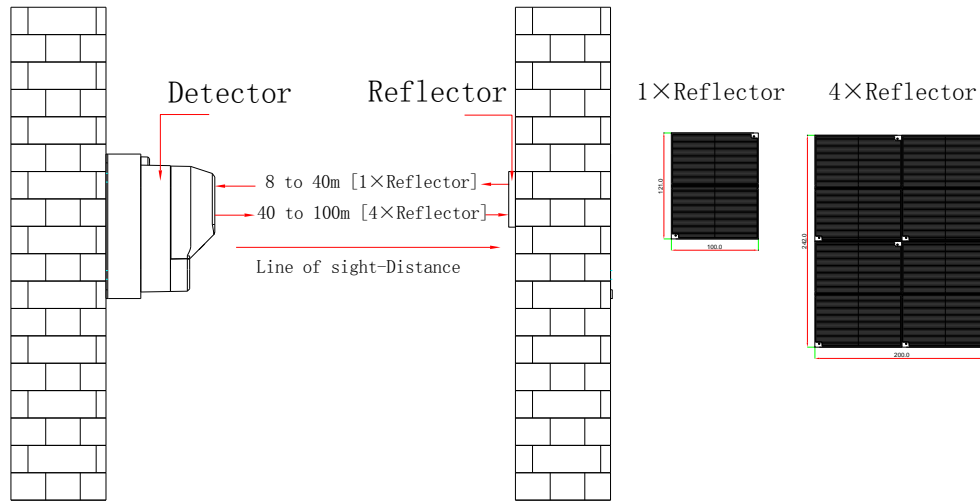

Figure 6 Mounting of Reflector
1. Depending on the project requirement, if the distance between the detector and the reflector is 10m-40m, install one reflector is enough; if the distance is 40m-100m, four reflectors is required. Refer to Figure 6.